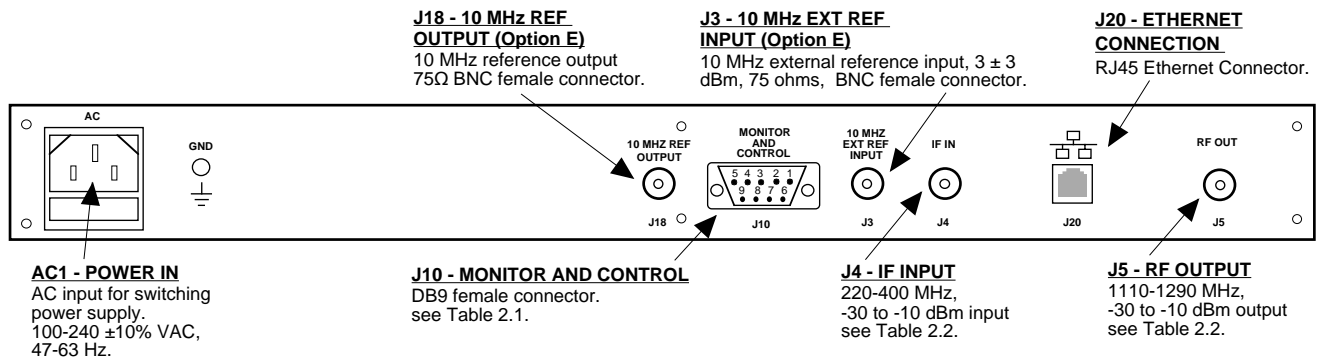

FIGURE 2.1 2083-0413 Rear Panel I/O's
Figure 2.1 shows the input and output connectors on the rear panel.
1. Connect a -30 dBm to -10 dBm signal to IF IN, J4 (Figure 2.1)